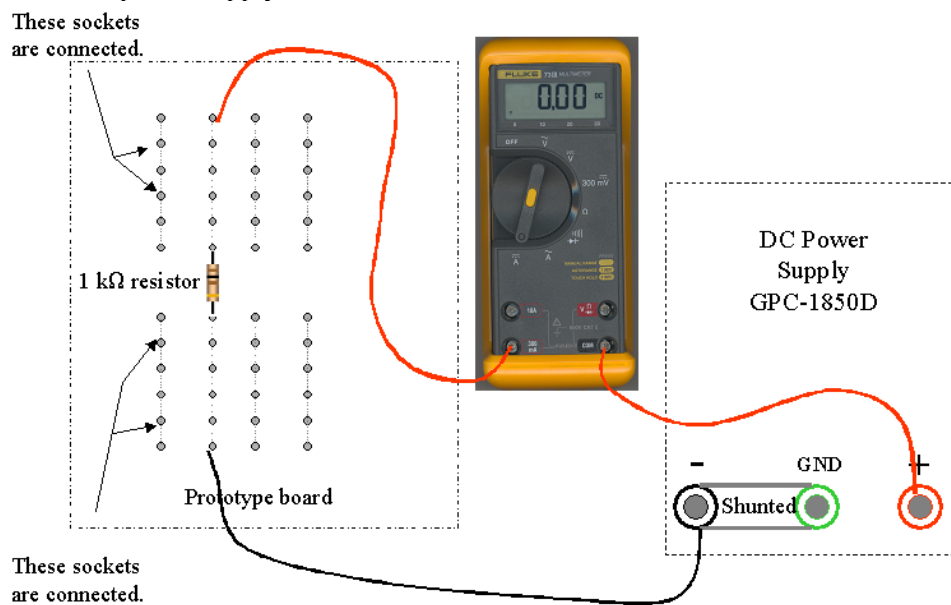

**Figure 2.3.7: Resistors in series.**
**Resistor basics:** Recall that resistances in series add directly, as in Equation (2.1) and Figure 2.3.7, and parallel resistances add inversely, as in Equation (2.2) and Figure 2.3.8.